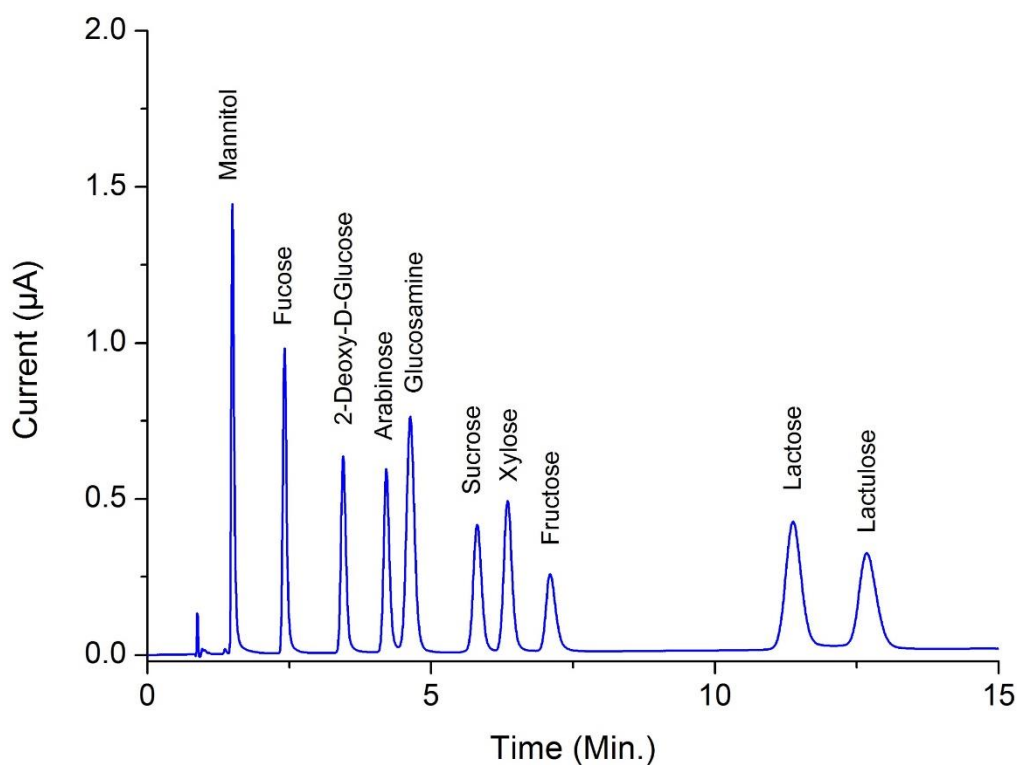

Fig. 29. Carbohydrate analysis in the pulse mode.
The DECADE Elite can operate in PAD mode (Not available in the DECADE Lite). In pulsed amperometric detection (PAD) the working electrode (WE) is regenerated at a frequency of 0.5 - 3 Hz by the application of a series of potential changes. This is particularly useful for certain applications where the working electrode is rapidly fouled due to adsorption of insoluble reaction products. A well-known application area of PAD is the analysis of carbohydrates (Fig. 29) [1].